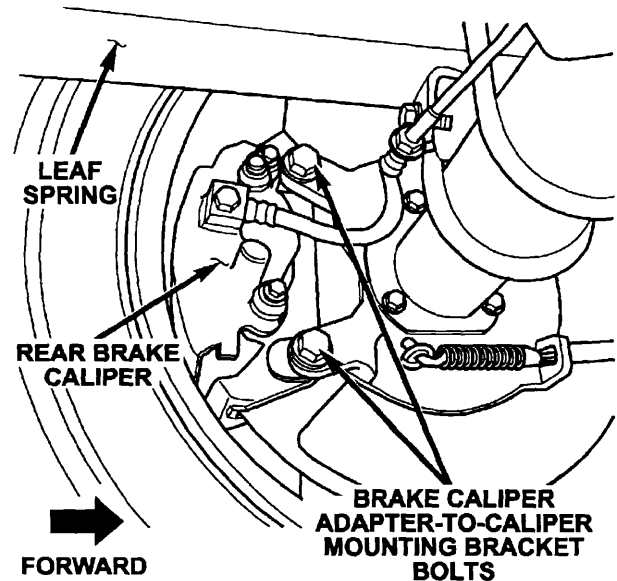

Figure 2 - Left Side Shown
3. Remove and discard the two original brake caliper adapter-to-caliper mounting bracket bolts on the left caliper (Figure 2).